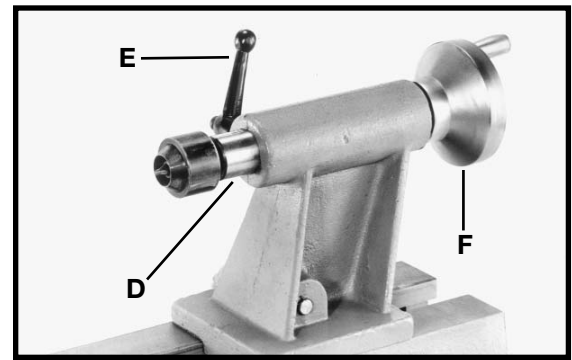

Fig. 26
2. To move the ram (D) Fig. 26, in or out, loosen locking lever (E) and turn handwheel (F). Tighten lever (E) after adjusting ram (D). **NOTE:** Total ram (D) travel ranges from 0 to 1-1/2".